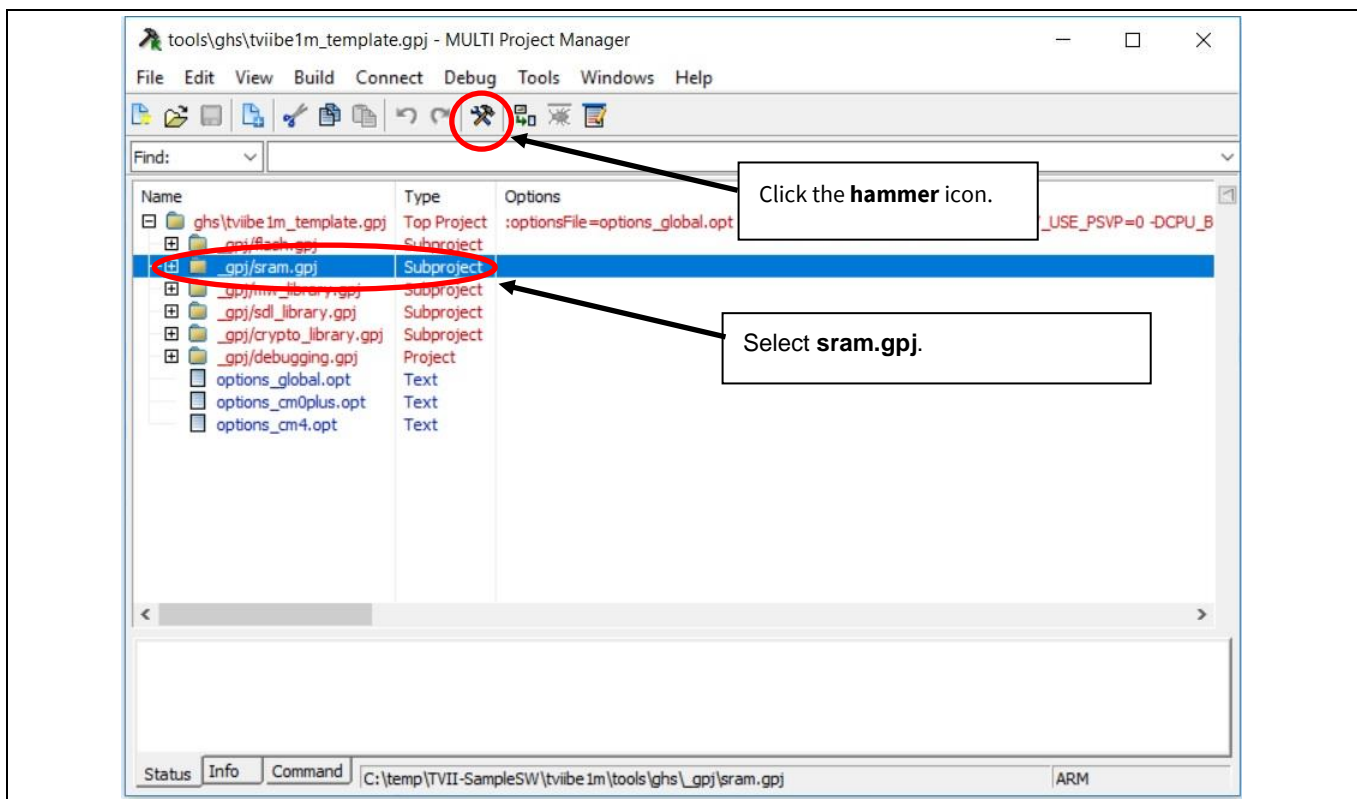
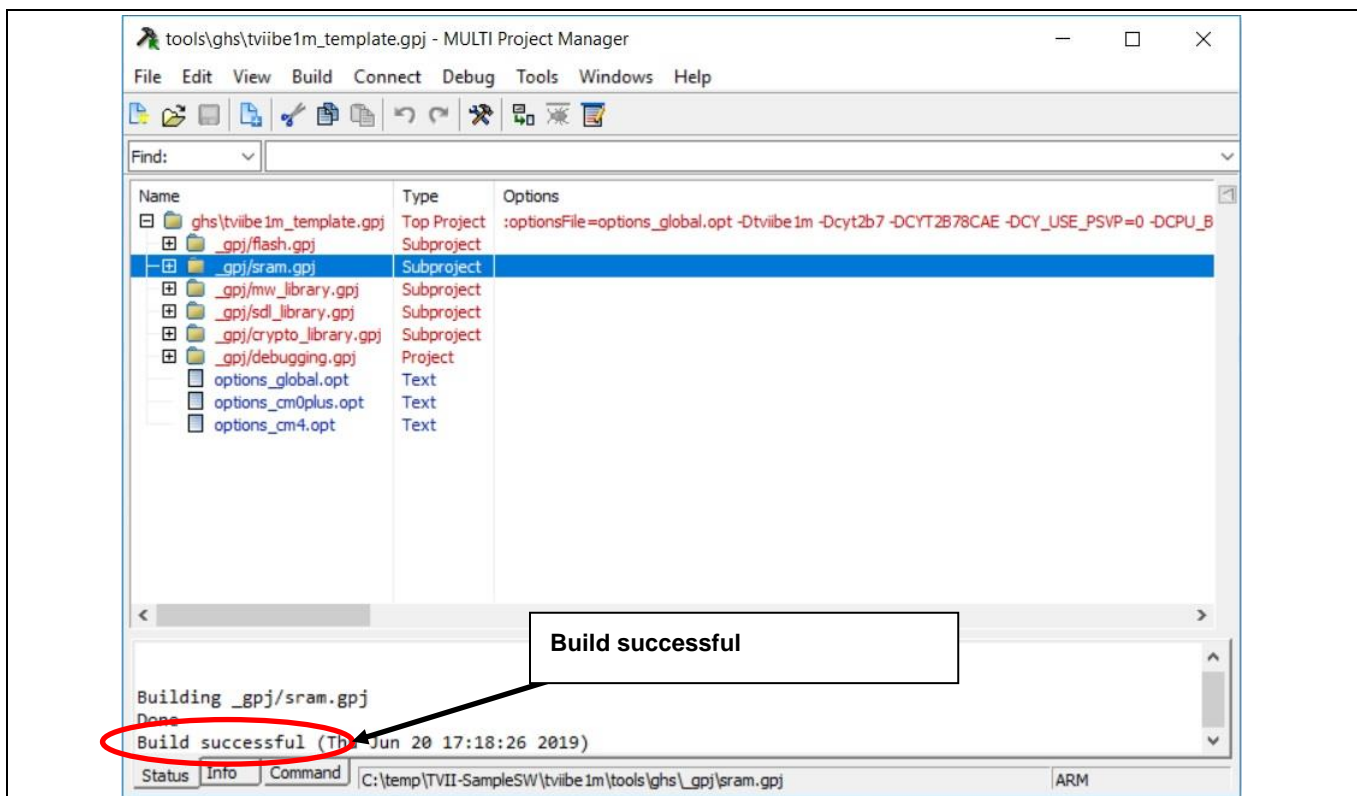

Figure 8 Build the Project of SDL Project
Figure 9 Build Successful of the Project of SDL Project
- For the build, select *sram.gpj* and click the **hammer** icon as shown in **Figure 8**. The build starts and successful messages appear as shown in **Figure 9**.